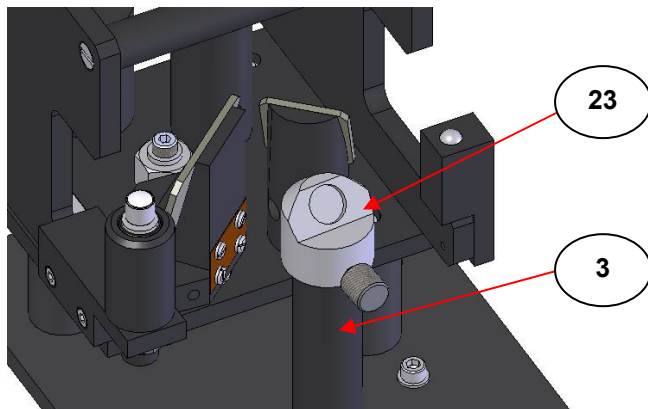

Fig 18. Tilted Sample Cup When Fitted to the Sample Post
The tilted cup (23) allows for the collection of “total reflectance” which is a combination of both diffusely and specularly reflected components of light. The tilted cup (23) is also placed over the sampling post (3) of the Selector™ baseplate (2) for a sample to be measured for total reflectance but the locking screw part of the cup (23) **must** be facing forward and to the front of the baseplate (2) before it is screwed to secure the cup (23) to the post (3). (See Fig 18.)